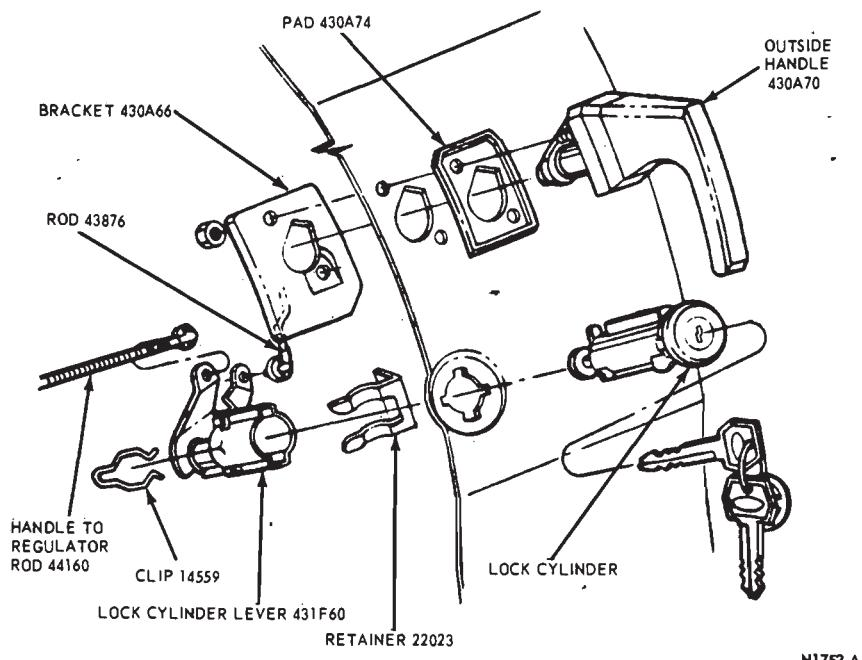

FIG. 8—Tailgate Outside Handle and Lock Cylinder—Ford, Mercury and Meteor
Remove the inside cover and watershield. Then, disconnect the rod and remove the handle retaining nuts (Fig. 8).
2. Disconnect the rods from the lock cylinder lever (Fig. 8).